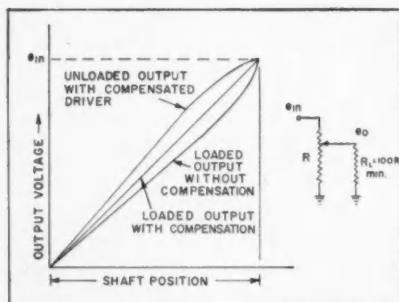

Fig. 2—Series resistance adjustment to minimize loading error.
Loading error is caused by current flow through the contact arm to a finite value of resistance (RL) connected to the output terminals of the pot. Ratio of total resistance of the pot to the load resistance determines the linearity error caused by the load. (Fig. 2).
Fig. 2 shows a restriction of the usable portion of the pot to the relatively flat portion of the curve. This requires trim-